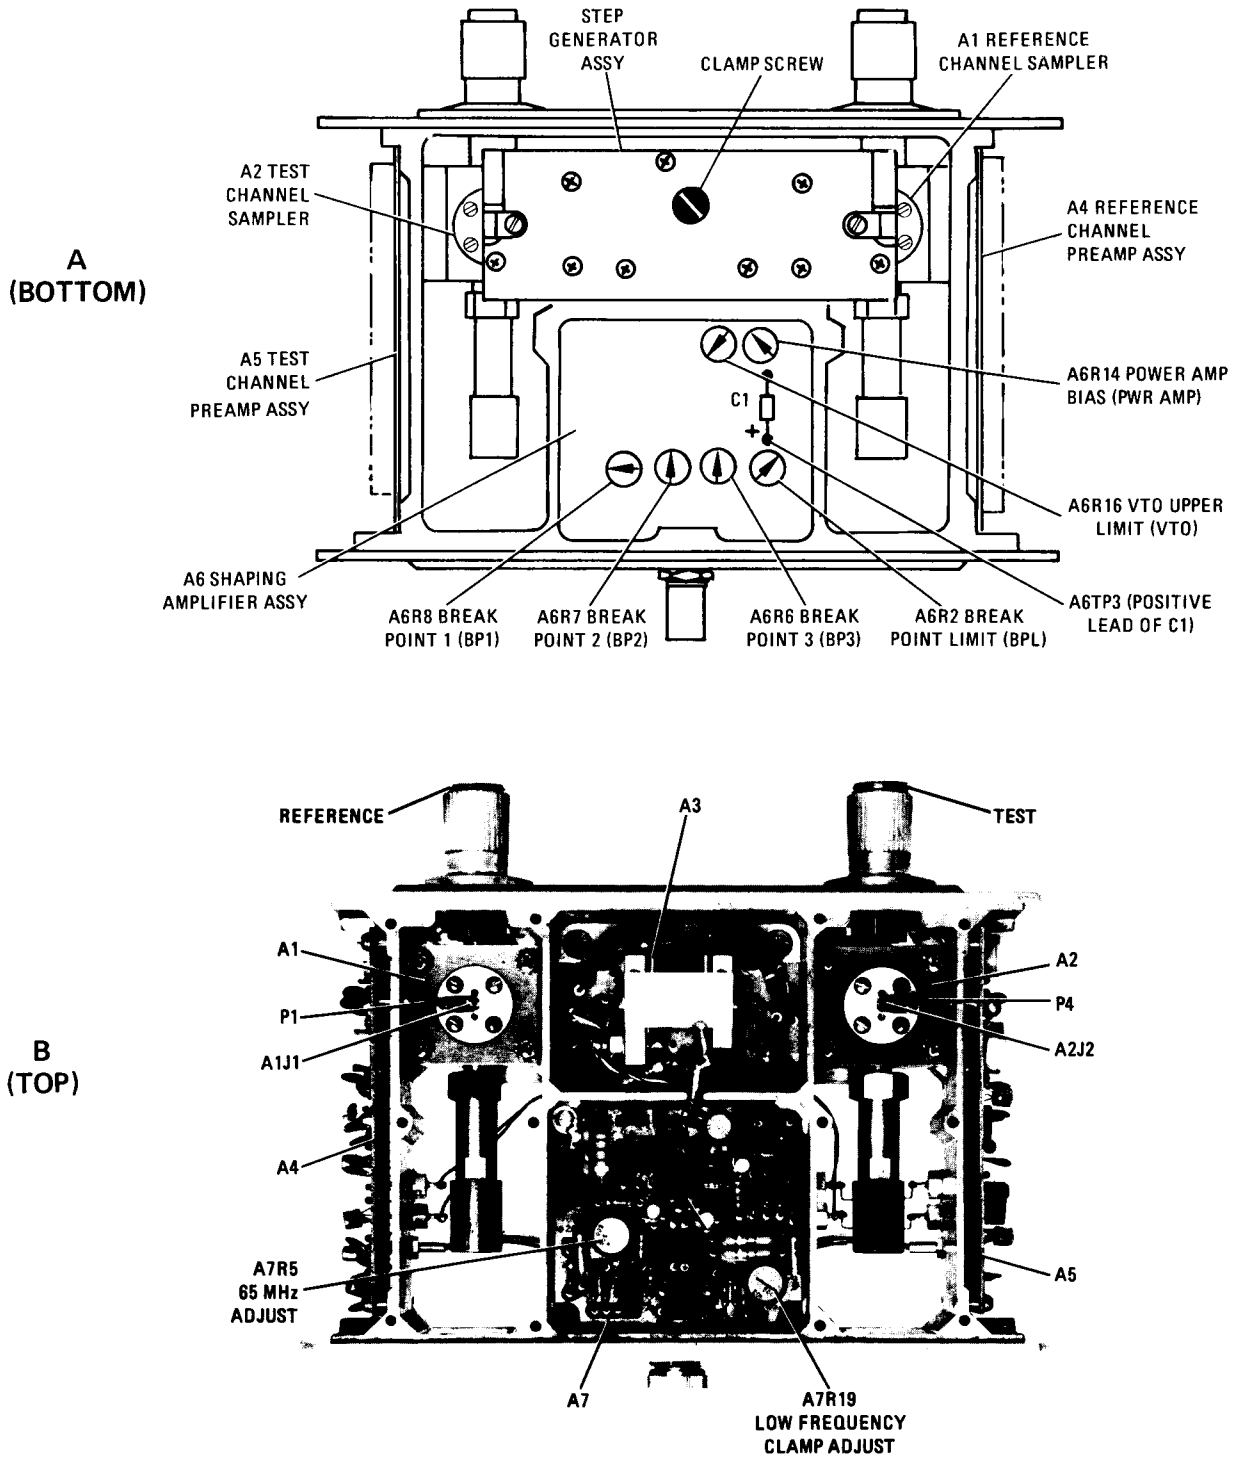

Figure 5-1. 8411A Adjustments Location and Preset Position
d. Preset the 8411A-A6 adjustment potentiometers as shown in Figure 5-1, drawing A.
- e. Set 8410B SWEEP STABILITY control to CW detent position. Adjust 8411A BPL (A6R2) for $11.20 \text{ Vdc} \pm 0.05 \text{ Vdc}$ at A6TP3. See Figure 5-1, drawing A for location of A6TP3.